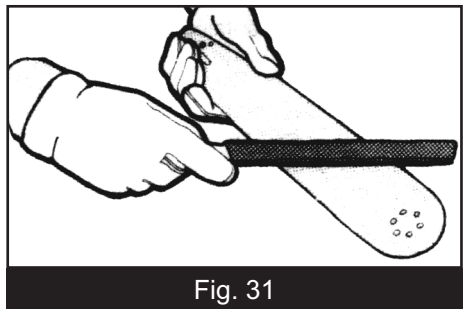

Fig. 31
2. Periodically trim the sides of the rails using a flat file. If not done in the long run the "feathered edges" might break away and damage the bar. (Fig.31)